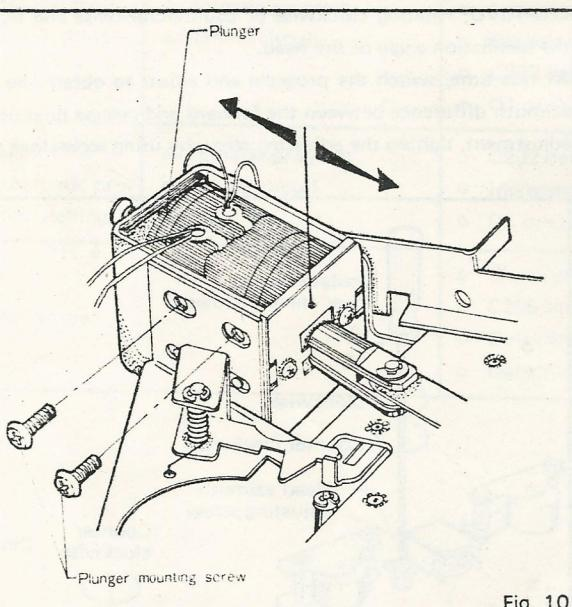

Fig. 10.
* Mounting position adjustment of plunger (Refer to Fig. 10)